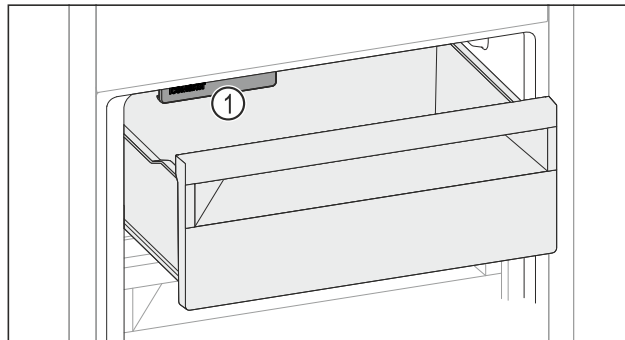

Fig. 140
- ▶ Uzmite u obzir IceMaker Fig. 140 (1).